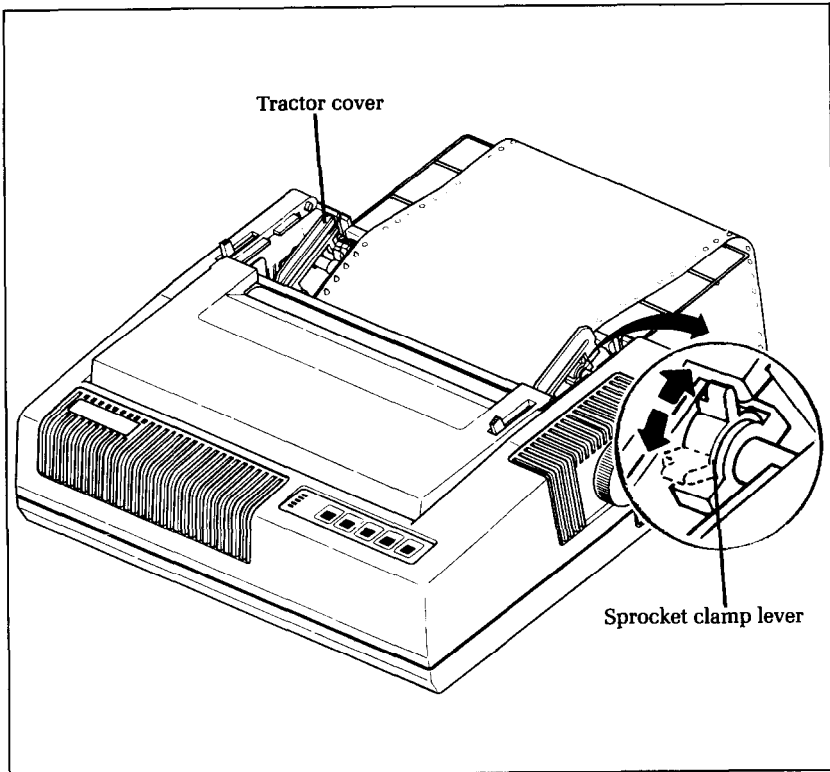

Figure 1-7. The tractors, which guide the paper, are underneath the rear cover.
5. Open the tractor covers, located on top of the left- and right-hand sprocket units (Figure 1-7).